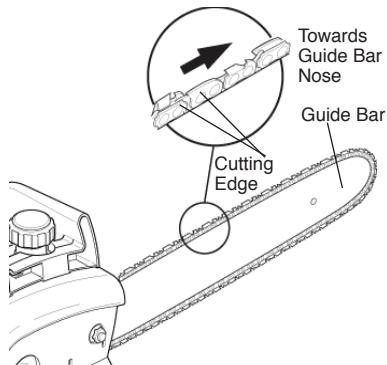

Figure 4 - Saw Chain Direction
6. Place chain around drive sprocket, along top groove of guide bar, and around guide bar nose. Note: Make sure cutting edges of chain are facing in right direction. Position chain so cutting edges are on top of guide bar face guide bar nose (see Figure 4 and indicator on side cover of saw).